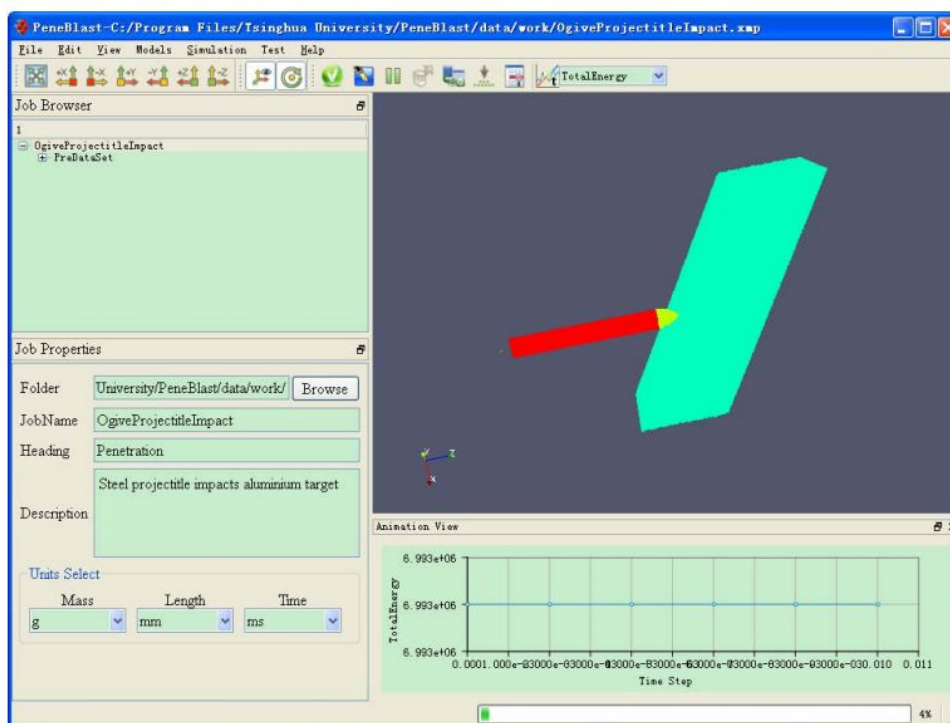

图 5.32: calculation monitoring
2. Toolbar-> Start, perform the calculation, calculate the monitoring screen as shown in Figure 5.32.